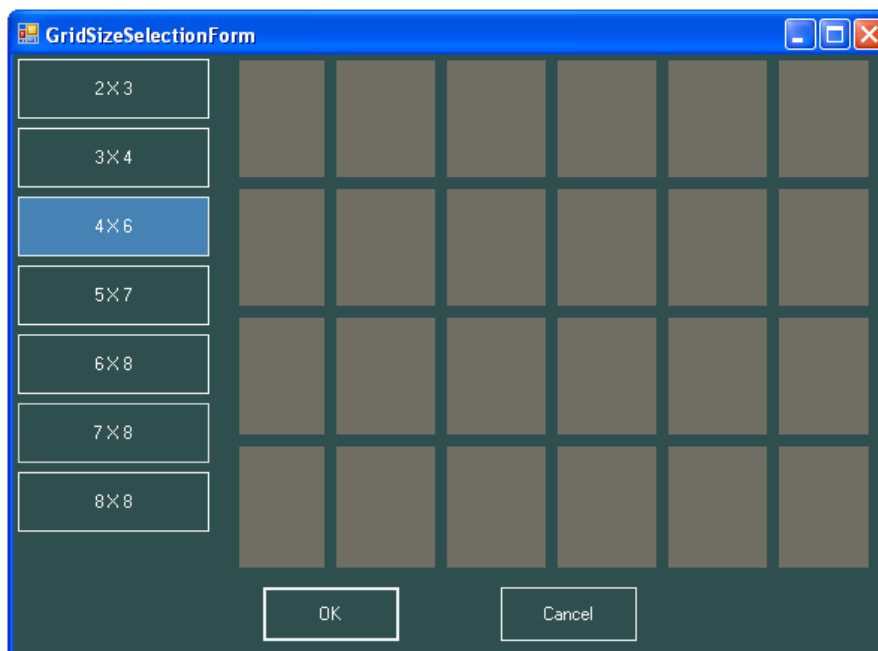

Fig 8 Grid size configuration screen
1. Select **MENU (35) > CONFIGURATION > GRID SIZE (54)**
2. Select from the listed rows x columns display options down the left hand side of the grid configuration screen (Fig 8). The preview panel to the right displays the selected option.